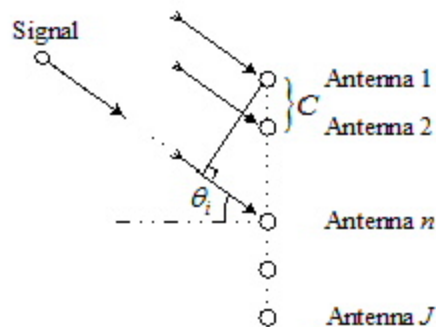

Fig. 1 Block diagram of Linear Antenna Array
3. The above does not consider linear antenna array. A uniformly spaced linear antenna array with  $J$  elements[1][2] is considered, as shown in Fig.1.